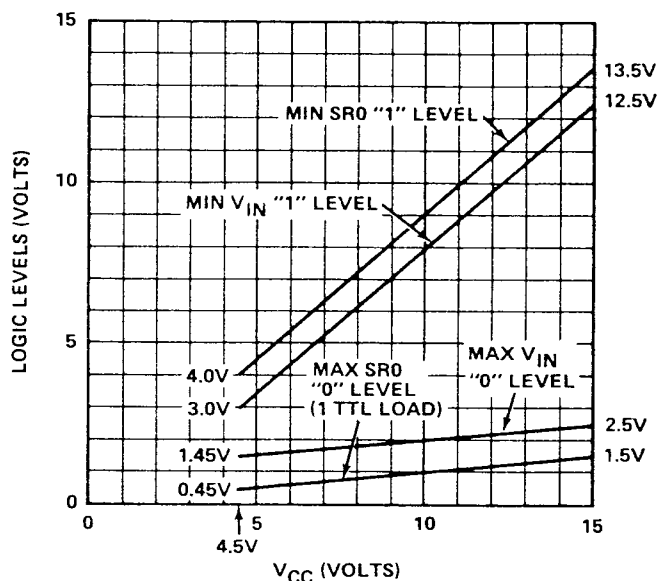

Figure 3. Logic Levels
4. Threshold levels shown are for TTL logic levels. For different V_{CC} levels typical in CMOS systems, see Figure 3.
4. Threshold levels shown are for TTL logic levels. For different V_{CC} levels typical for CMOS systems, see Figure 3.